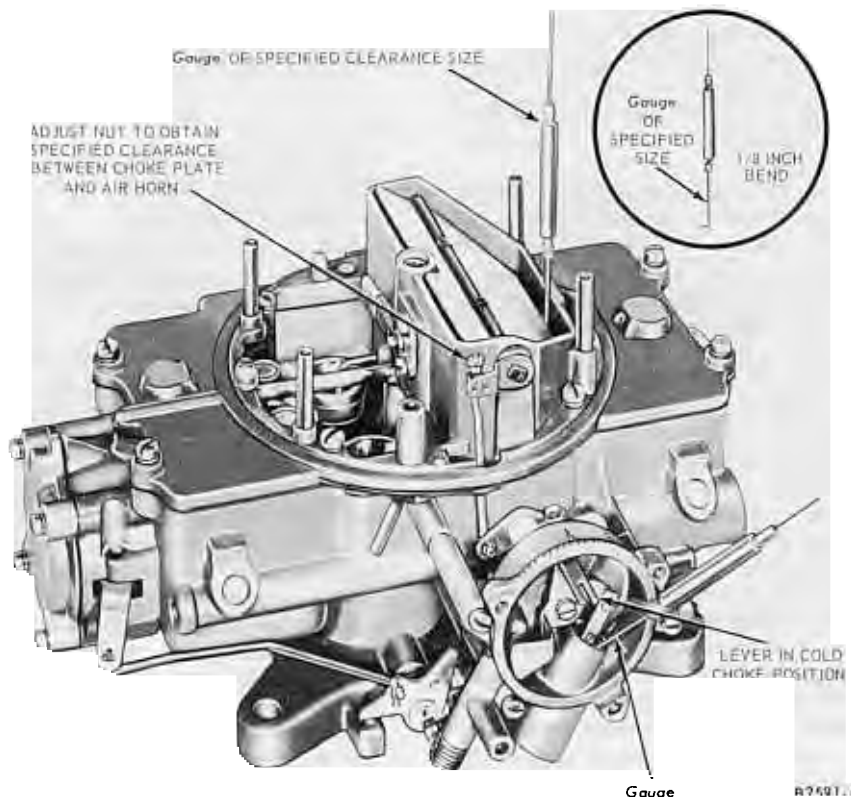

FIG. 4—Choke Plate Clearance (Pull-Down) Adjustment—(Typical) Ford 2-V and 4-V
4. Bend a specified size (Part 10-8) wire gauge (tool) at a 90° angle, approximately 1/8 inch from its end (Fig. 4).
6. Insert the bent end of the gauge between the lower edge of the piston slot and the upper edge of the right hand slot in the choke housing (Fig. 4), and pull the choke countershaft lever counterclockwise until the gauge is snug in
the piston slot. Hold the wire gauge in place by exerting light pressure on the countershaft lever, and adjust the choke plate clevis (pull-down) adjusting nut to obtain the specified clearance (Part 10-8) between the front of the choke plate and the air horn (Fig. 4).